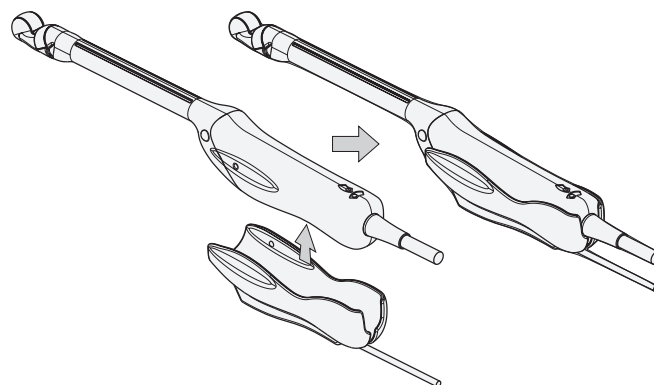

Figure 9 How to attach Magnetic Position Sensor Attachment
- (3) Attach the magnetic position sensor attachment to the probe as shown in Figure 9.